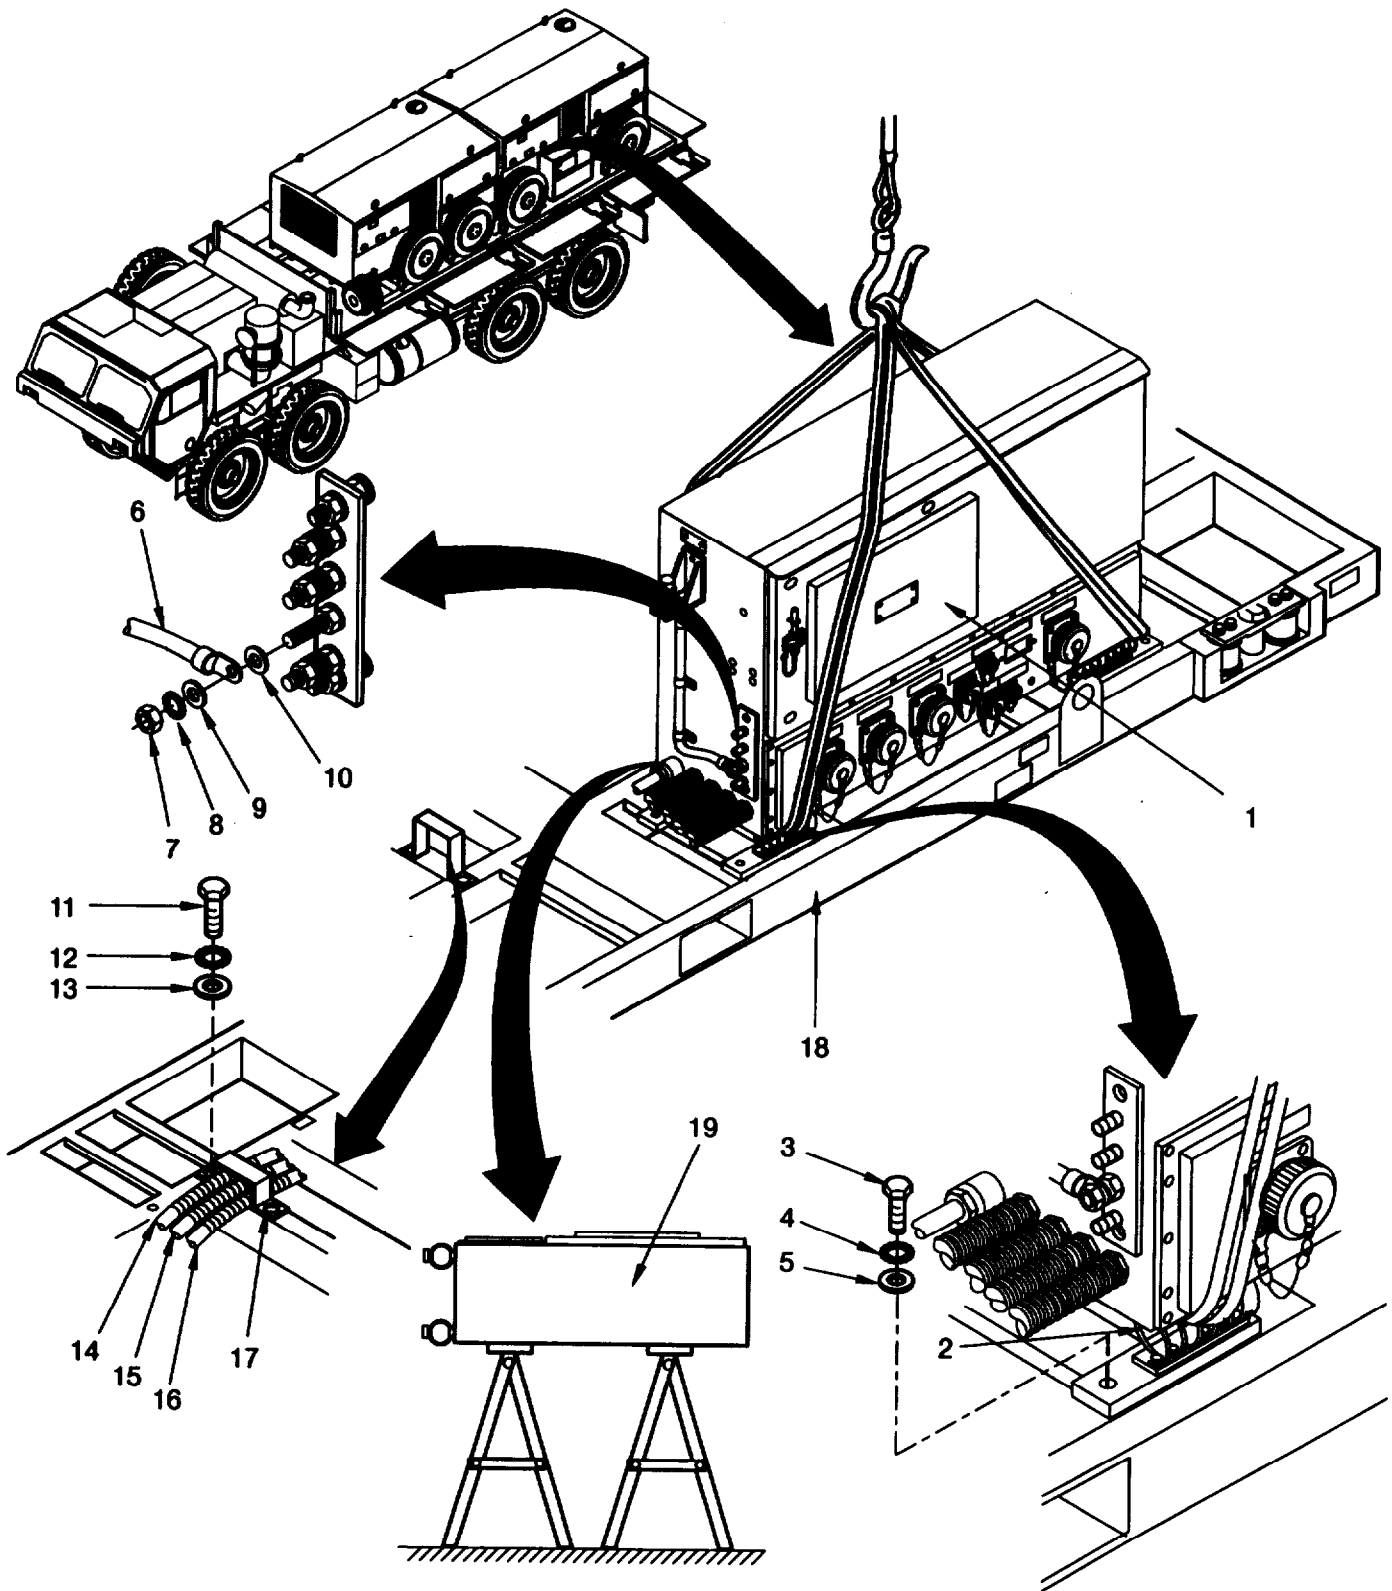

Figure 4-30 Removing the Power Distribution Unit from Pallet Frame using a Crane.
- a. Remove all cables from connection panel (2, figure 4-30) and from grounding bar as instructed in paragraph 4.16.
- b. Working from left to right in the order (1), (2), (3), (4), swing cable drums (1 to 4) forward in operating position and lock in place. This provides access to the left and right sides of the power distribution unit.
lb prevent damage to the corrugated hoses and cables, make sure the sling is attached beside the four shock absorbers (2) as shown in figure 4-30.
- f. Position the crane above power distribution unit (1), and attach the sling to the power distribution unit (1).
- g. Remove four screws (3), serrated lock washers (4), and washers (5).
- h. Remove screw (11), serrated washer (12), washer (13), and bracket (17). Remove the three cables (14, 15, 16) underneath, then screw the components temporarily back on.
- i. Lift power distribution unit (1) approximately 8 inches (20 cm) with the crane.
- a. Check if power distribution unit (1, figure 4-30) is in good condition.
- a. Stow prop (2), close access door (1), and secure.
- b. Position crane with sling in front of power distribution unit so that sling can be attached beside shock absorbers (2, figure 4-30).
- f. Use the crane to lower power distribution unit (1, figure 4-30) all the way. Remove the crane and sling.
- g. Install four screws (3), serrated lock washer (4), and washer (5). Tighten screws (3).
- h. Bundle cables L3, N, and control cable J9 (14, 15, 16) under the bracket (17). Install bracket (17) on pallet frame (18) using screws (11), serrated lock washer (12), and washer (13). Tighten screws (11).